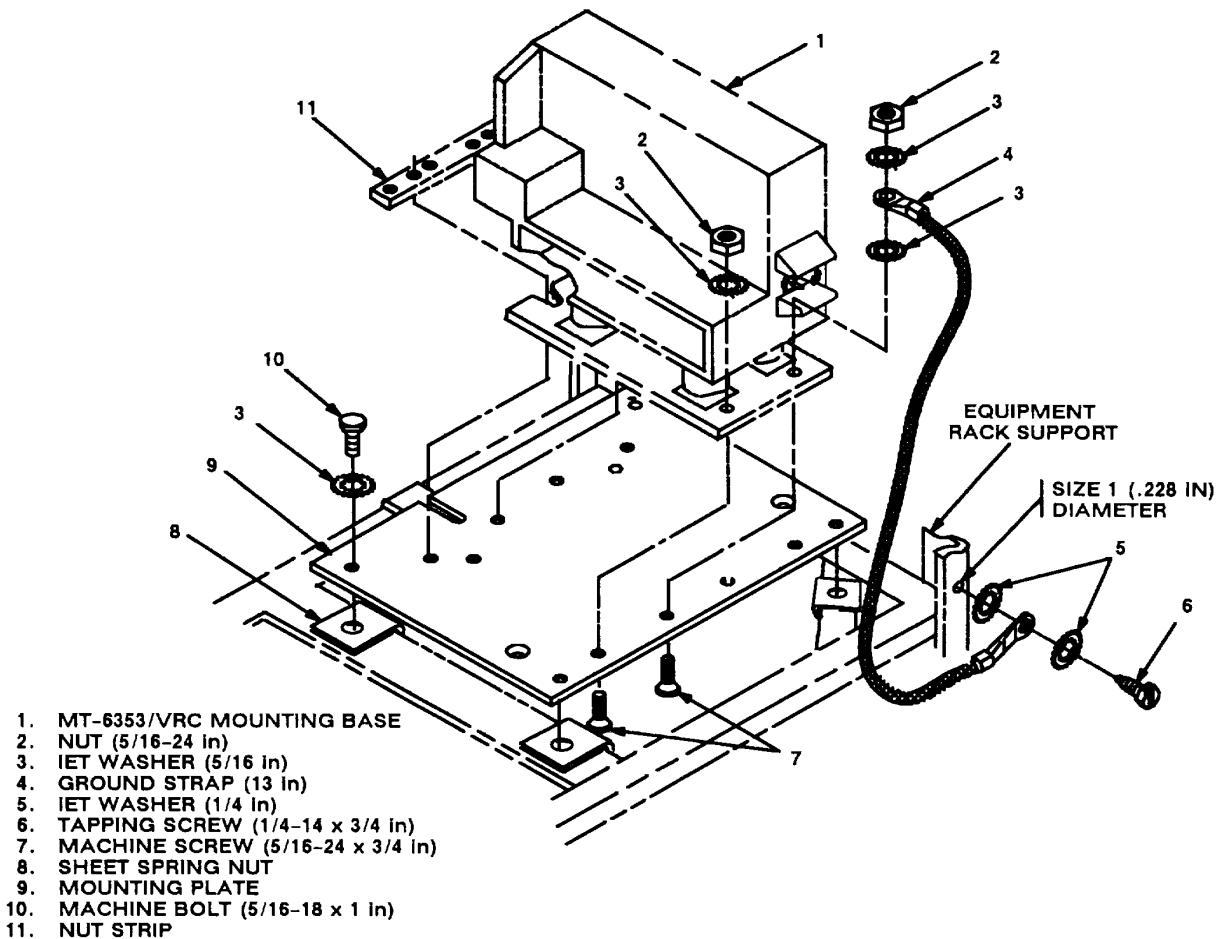

Figure 5-6. MT-6353/VRC Mounting Base Installation: Equipment Rack Shelf
- a. Five sheet spring nuts (8). Slide over existing holes in equipment rack shelf. See figure 5-6.
b. MT-6353/VRC mounting base (1).	Place on mounting plate (9) over matching hole pattern. See figure 5-6.